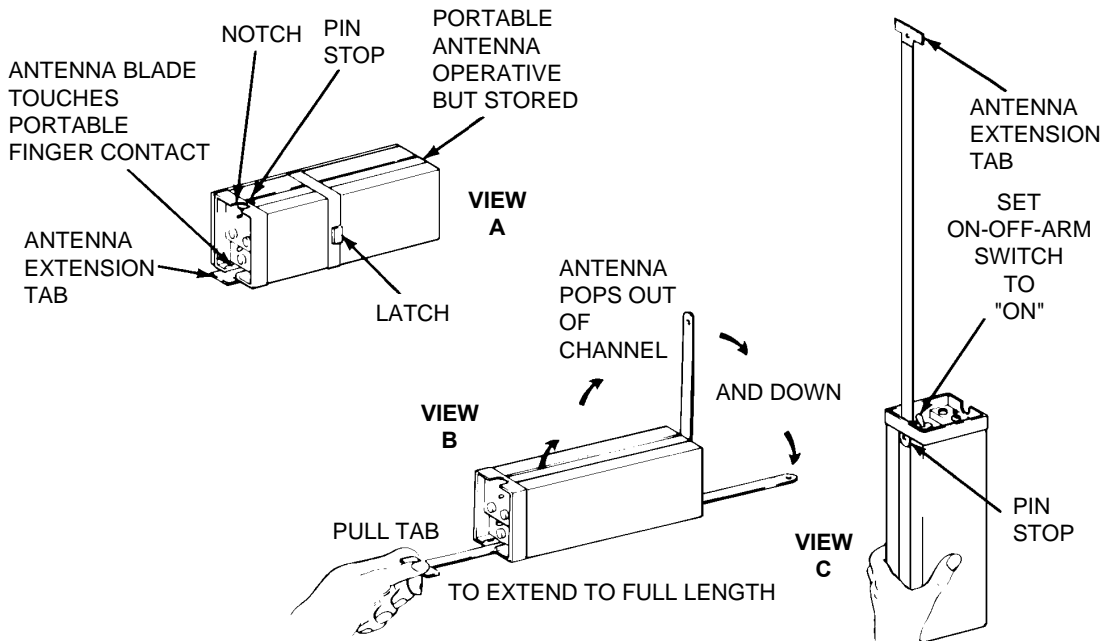

Figure 23-2. ELT 10 Portable Folding Antenna (Narco)
BATTERY REMOVAL AND INSTALLATION (ELT 10) (Refer to Figures 23-2 and 23-3.)
5. Extend the portable antenna. (Refer to Figure 23-2.)